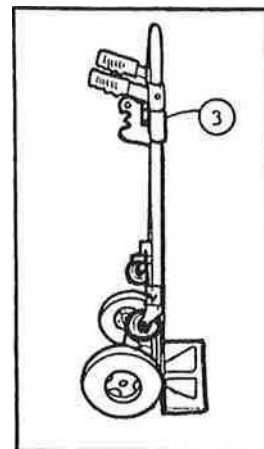

FIGURE 2
6. Rotate "U" handle to vertical position and lower until axle spreader is aligned with locking bracket (figure 2) and lock into place.
7. Position single grip handle by resting the bottom of the handle on the pivot socket with the flat part positioned so that the hole is centered with the main frame (Figure 2).